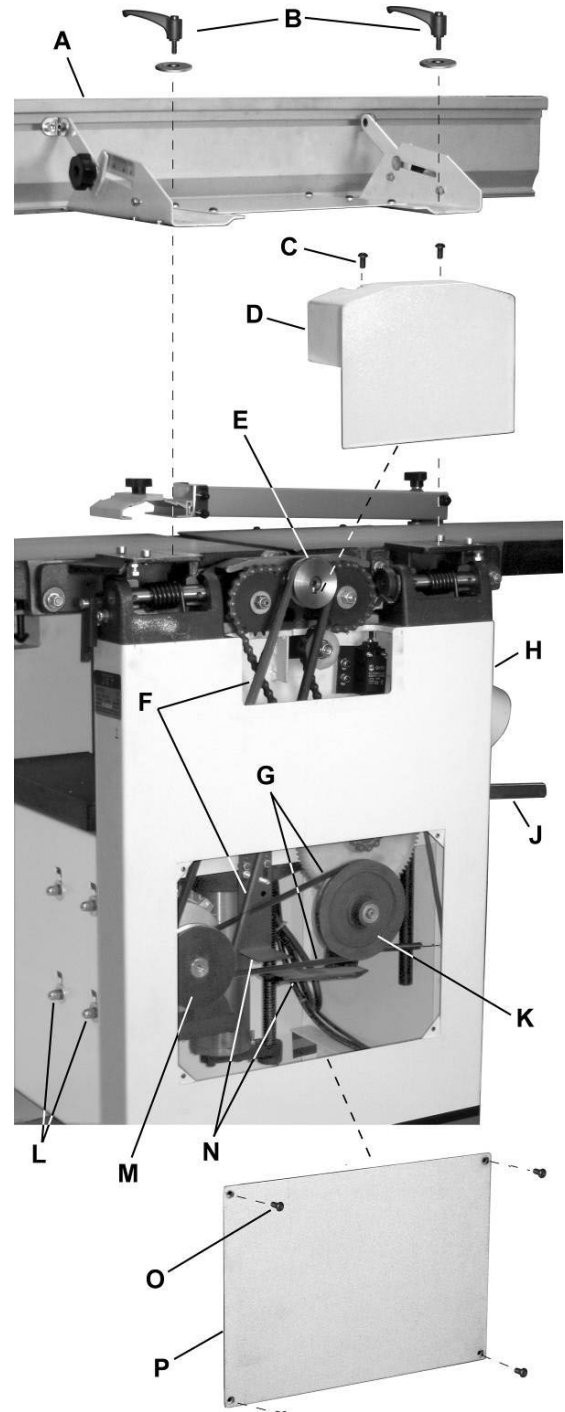

Figure 14
Refer to Figure 14.
1. Remove the *jointer fence assembly* (A, Figure 14) by first loosening and removing two *lock handle assemblies* (B).
2. Remove two *button head socket screws* (C) and *upper back panel* (D).
3. Remove four *button head socket screws* (O) and *lower back panel* (P).